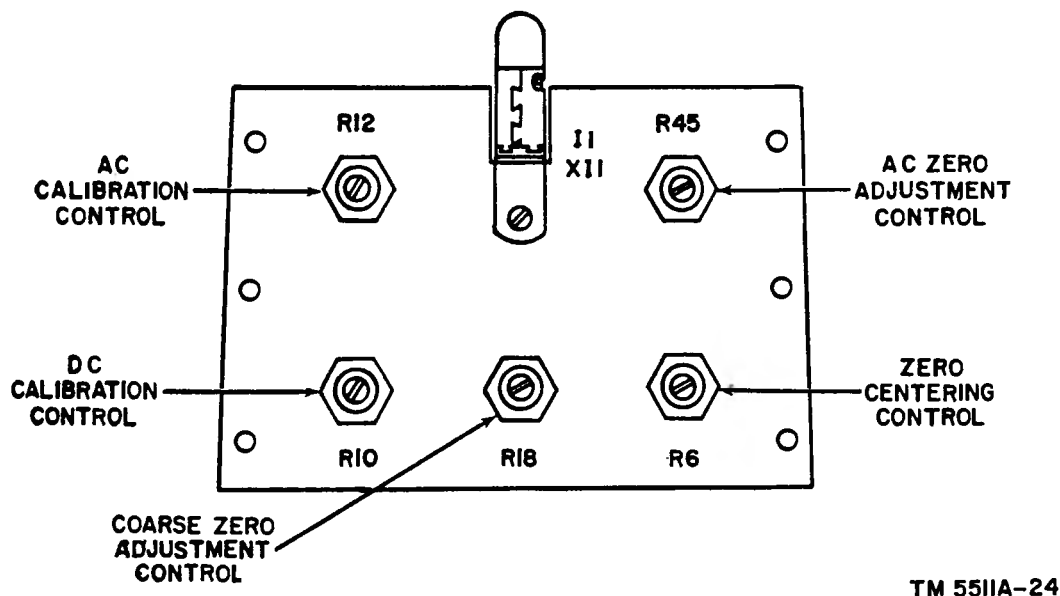

Figure 24. Electronic Multimeter TS-505A/U, calibration adjustment controls.
(1) Set the ZERO ADJ. control to its mechanical center.
- (2) Connect the DC and COMMON probe tips together.
- (3) Turn the RANGE switch to the 2.5 V-RX1 position.
- (4) Loosen the locknut on coarse zero adjustment control R18 (fig. 24).
- (5) Turn coarse zero adjustment control R18 to the right or left a quarter of a turn. Wait one minute for a meter pointer indication because the action of this control is sluggish.
- (6) Turn the control for further resetting as necessary. Wait one minute between each setting. Turn control R18 until meter pointer is within one-half scale division of zero.
- (7) Tighten the locknut on control R18. Be careful not to disturb the setting of the control.
- (8) Set the meter pointer to zero reading by turning the ZERO ADJ. control on the front panel.
- (1) Turn the FUNCTION switch to the \pm dc position. Turn the RANGE switch to the 2.5 V-RX1 position.
- (3) Loosen the locknut on zero centering control R6 (fig. 24).
- (4) Turn the zero centering control R6 and wait one minute for a meter indication. The meter pointer should rest in the center of the scale.
- (5) Turn the zero centering control R6 until the meter pointer rests in the center of the scale. Wait one minute between each setting because the control R6 is sluggish.
- (6) Tighten the locknut on zero centering control R6. Be careful not to disturb the setting of the control.